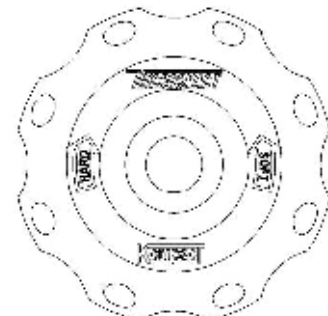

Figure 2 Top View of Cap showing Hard, Soft adjustments
- Adjustment to the KOMPACT PB BOV is made by rotating the cap (see figure 2), to increase spring tension rotate in the direction of hard, marked on the top of the cap.
- Remove the cap of the KOMPACT PB BOV by rotating in an anti-clockwise direction (see figure 2) – **CAUTION** The cap is under spring tension, wear safety glasses and remove with care!